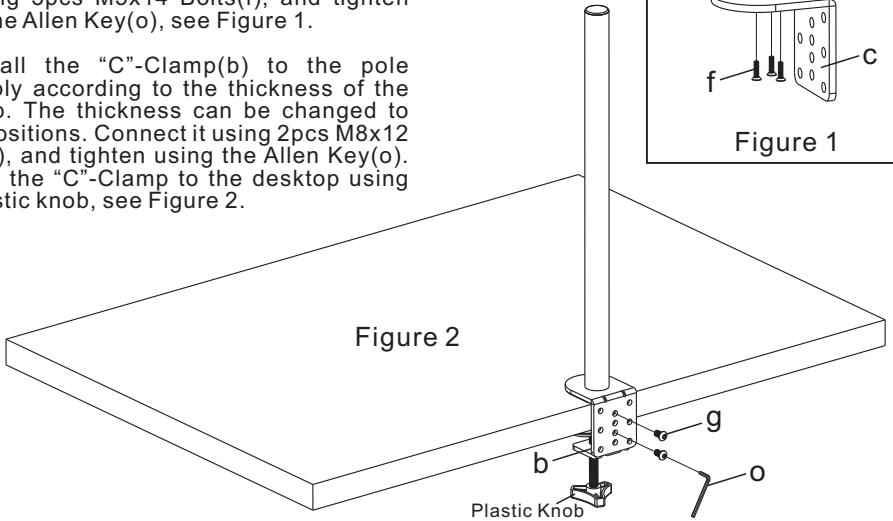

Figure 2
2. Install the “C”-Clamp(b) to the pole assembly according to the thickness of the desktop. The thickness can be changed to three positions. Connect it using 2pcs M8x12 Bolts(g), and tighten using the Allen Key(o). Tighten the “C”-Clamp to the desktop using the plastic knob, see Figure 2.